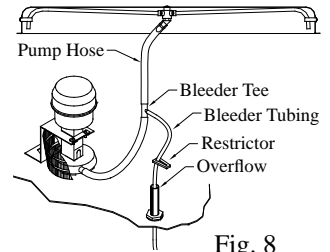

Fig. 8
- **Install Bleeder Tee and Tubing.** Refer to figure 8. Cut the pump hose and insert the barbed ends of the bleeder tee into each cut end. Insert one end of the bleeder tubing onto the bleeder tee and run the other end out of the cooler through the overflow pipe.